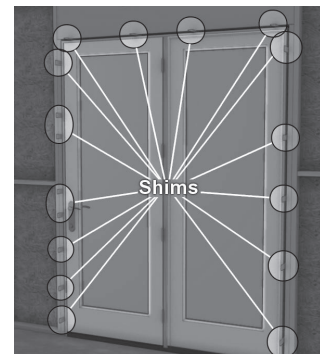

Figure 8
**1h) (Required)** Place shims along the jambs and head on the interior of the unit (figure 8 & 10) **behind each hinge, strike plate and all through jamb fastener points.** For Florida installation, the shims must be the full depth of the jamb. **Tip:** Apply some sealant to the shim contact surface and this will hold it in place until the door is secured.